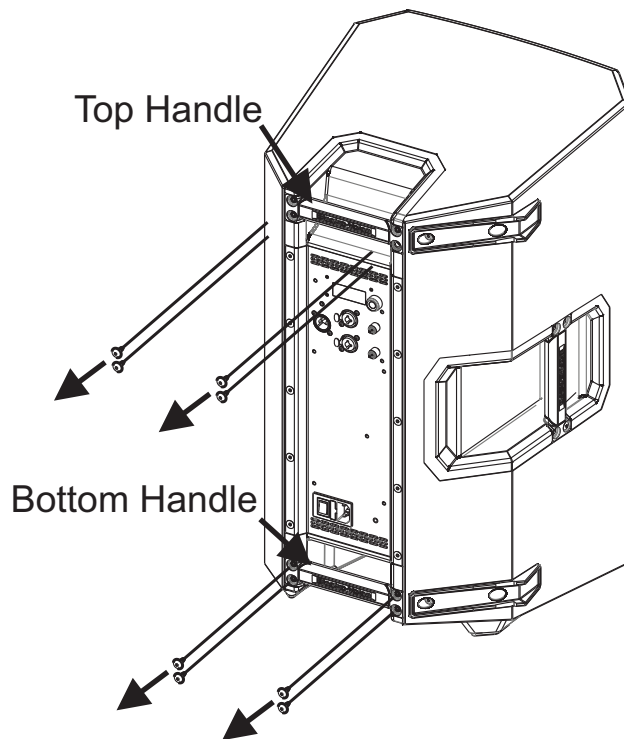

Figure 2.1: Remove Handles
2. Remove the **bottom handle** from the loudspeaker by removing the four (4) screws. Keep these screws to assemble the lower mount. (See Figure 2.1.)
3. Attach the **upper mount** to the loudspeaker with four (4) of the screws from step 1, where the top handle was located in the up position. If you are attaching the upper bracket to a 15 inch ZLX loudspeaker attach the upper mount in the down position.